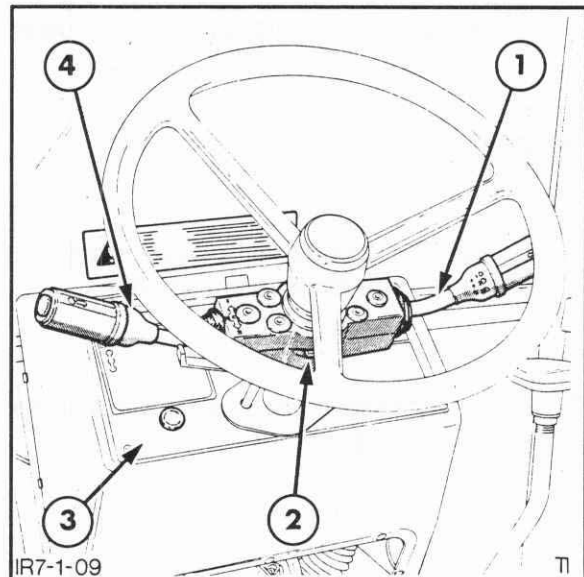

Figure 7-17
steering column, Figure 7-17. Ease the lever(s) away from the column.
5. Remove the steering console panel screws and carefully slide the panel, Figure 7-17, up the steering column. This will provide access to the power-reversing and turn signal switch harness connectors.